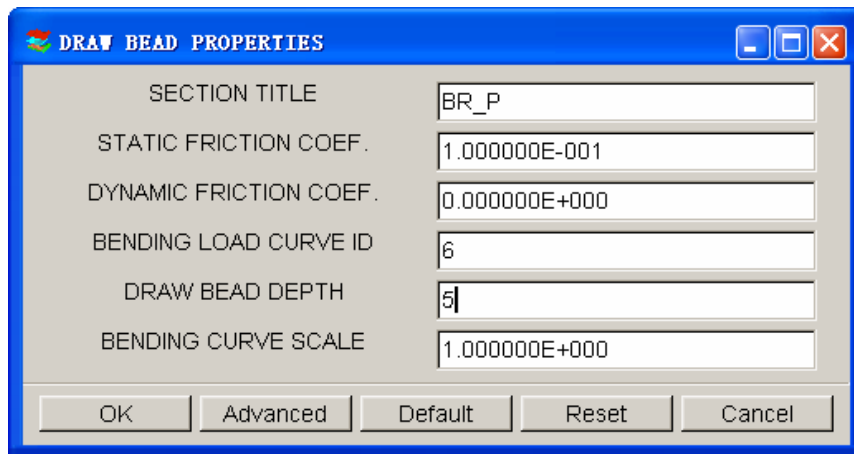

Figure 9.4.6 The Drawbead Properties Table.
3. Click NEW to create new drawbead properties. The DRAWBEAD PROPERTIES table is shown in Figure 9.4.6. It allows the user to set the drawbead restraining force, normal force, depth, percentage of lock force, etc.
window are similar to those described in the MATERIAL and PROPERTY sections (9.6 and 9.7). The table of DRAWBEAD PROPERTIES is shown in Figure 9.4.6.